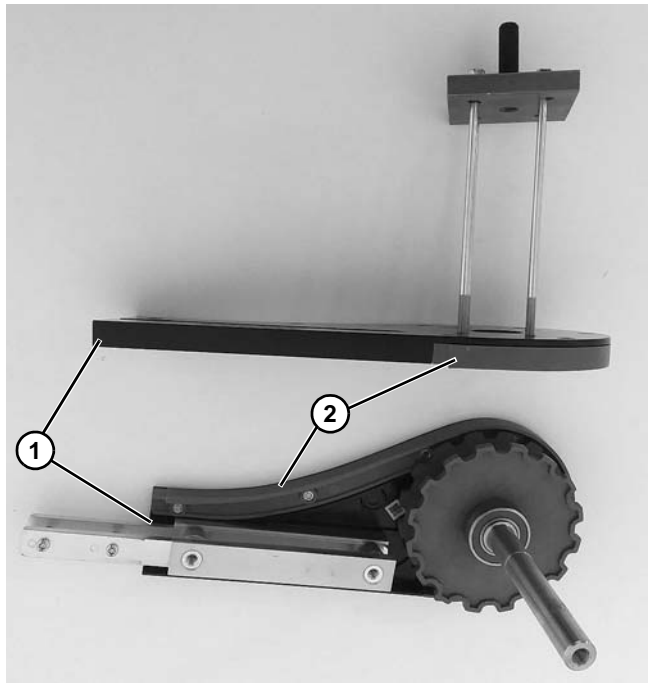

Figure 122
7. Remove the head plates (Figure 122, item 1) from the drive tail.